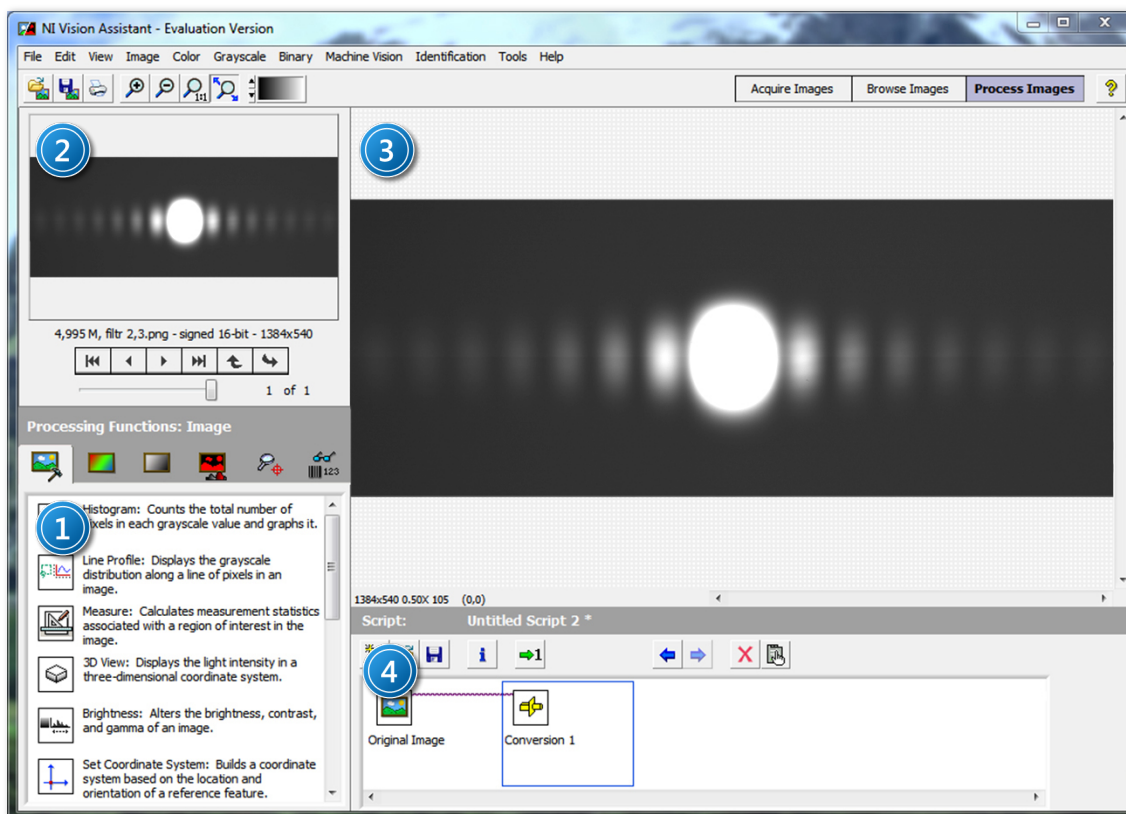

Figure 4. *NI Vision Assistant* program window: 1 – function selection panel; 2 – image selection panel; 3 – image preview panel; 4 – script editing panel.
A List of operations performed sequentially by *NI Vision Assistant*, such as image transformations, distance measurements and conversions is written in a script that appears in the script editing panel (4, Figure 4).
3. At any time, you can select which image to edit with the *Process Image* tab by clicking  in the image selection panel (2, *Figure 4*), or by going to the browser (click *Browse Images*) and double-clicking the selected thumbnail image (or selecting the thumbnail with a single mouse-click and going to the *Process Image* tab).
2. under the *Greyscale* menu, select *Conversion*, and in the function selection panel (1, *Figure 4*), choose *8-bit [0, 255]* and confirm by clicking *OK*.
- Confirm the image calibration data by clicking *OK* in the function selection panel (1, *Figure 4*).
- After image calibration, you can make distance measurements between any two points. To do this, click *Measure* in the function selection panel (1, *Figure 4*):
1. Click *Line Profile* in the function selection panel (1, *Figure 4*):
2. Use the mouse to mark a segment in the image preview panel (3, *Figure 4*) along which you wish to measure light intensity. To draw horizontal or vertical segments, hold the *Shift* key.
3. The light intensity profile along the marked segment is shown in the function selection panel marked *Line Profile Setup* (1, *Figure 4*).